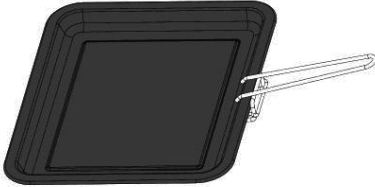

Fig. 3
- How to fit the handle to the baking tray and grill rack - see figs. 3 & 4.
- Always use the handle supplied when fitting or removing the rack / tray from the oven. See figs 3 & 4 below on how to fit the handle.